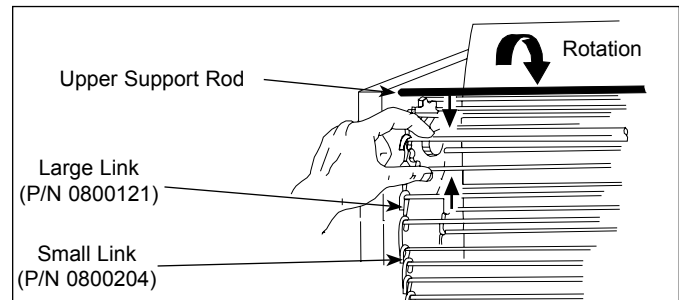

Figure 12. Removing Conveyor Belt Chains
After a time, the Conveyor Chain links will wear and the Conveyor Belt chain will stretch, eventually skipping on the sprockets. This is easily remedied by removing one or more conveyor links from each side of the belt. There are two 1/2" small links on each side of the conveyor belt. The others are large, 3/4" long (Figure 12).
5. Disconnect the Conveyor Belt Chain by squeezing any two links together and unhooking both ends of one link (Figure 12).
7. Place the new Conveyor Belt Chain on the top sprockets with hook ends down. Check for correct positioning (Figure 12).
NOTE: The ends of the hooks must point down. (Figure 12).